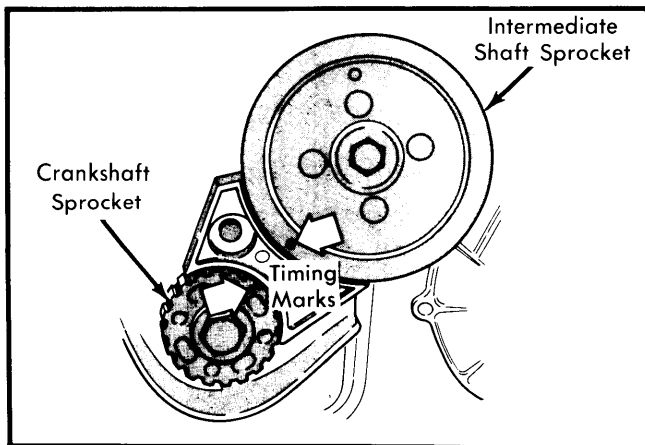
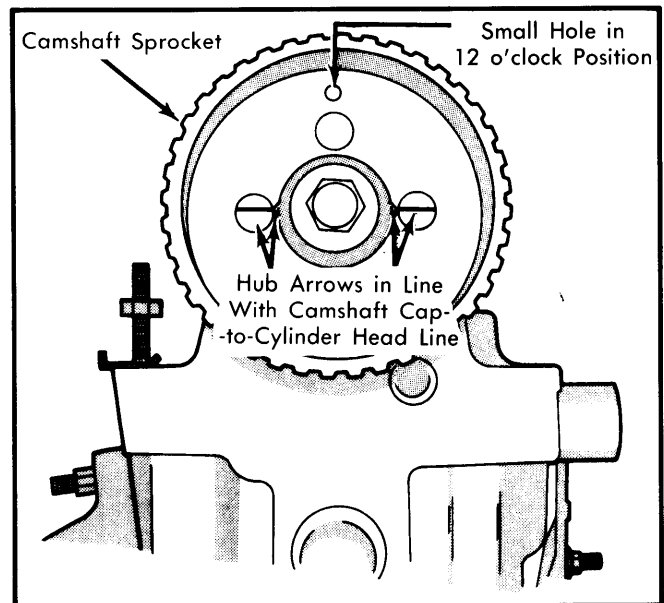

Fig. 9 Crankshaft and Intermediate Sprocket Timing Marks
Fig. 10 Camshaft Timing Marks
Installation - 1) Align timing marks on crankshaft and intermediate sprockets. See Fig. 9. Turn camshaft sprocket until arrows on hub are in line with No. 1 camshaft cap-to-cylinder head line. Small hole must be at 12 o'clock position. See Fig. 10.
3) Install intermediate sprocket and sprocket holding tool (C-4687 or equivalent). Install sprocket bolt and tighten. Align intermediate shaft, crankshaft and camshaft sprocket timing marks. See Figs. 9 and 10. Align slot in oil pump shaft parallel to centerline of crankshaft.